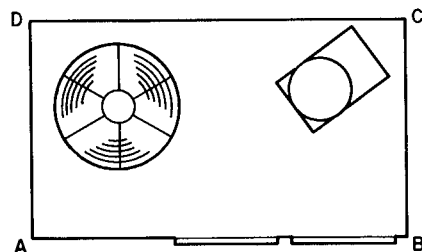
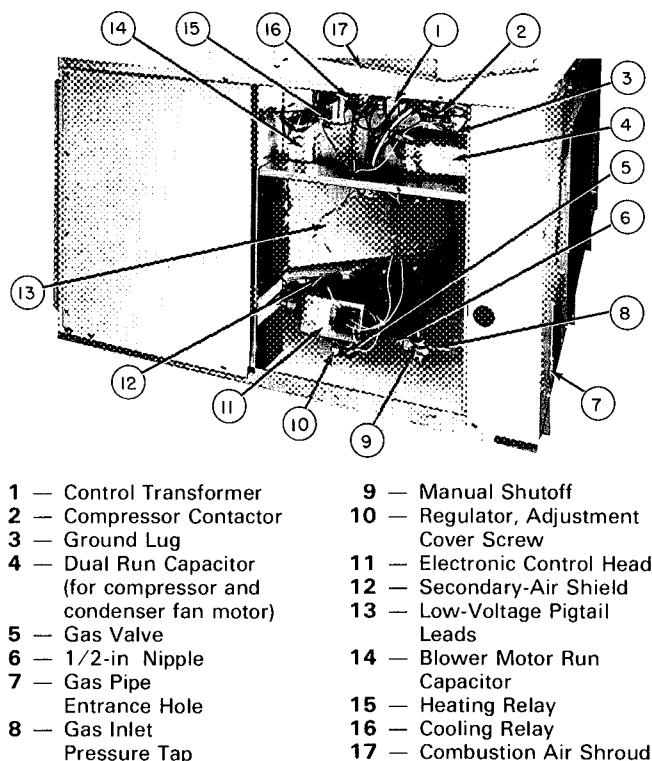

Fig. 4 — Dimensions and Clearances (ft-in.)
Fig. 6 — Model 48KLA036 — Side View (Partial) with Access Doors Removed
4. Refer to Fig. 4 for location of gas meter, electrical meter, condensate drain, duct connections and required clearances before setting unit in place.
CAUTION: When installing unit on a rooftop, be sure roof will support the additional weight. Refer to Fig. 4 to obtain total weight and corner weight information.
CLEARANCES — Required minimum operating and service clearances are shown in Fig. 4 for providing adequate combustion, ventilation and condenser air.
Models 48KHA,KLA dispose of condensate water through a 3/4-in. MPT drain fitting. See Fig. 4 for location.
VENTING — The vent cap, combustion air shroud and flue assembly are shipped in either the blower or control compartment. Vent screen is taped to blower housing. Remove access doors to locate assemblies. See Fig. 4 for door locations.
Step 2 — Make Gas Piping Connections — A manual shutoff valve is shipped loose in the burner compartment or blower compartment. Connect one end of a field-supplied 1/2-in. straight nipple to the gas valve inlet. Connect the other end of the nipple to the manual shutoff valve as shown in Fig. 6. The gas supply pipe enters unit through access hole provided. See Fig. 4 for location. The gas connection to unit is made to the 1/2-in. FPT gas inlet on manual shutoff. See Fig. 6 for inlet location.
Step 3 — Make Duct Connections — Model 48KHA,KLA has duct flanges on the supply-and return-air openings on side of unit. See Fig. 4 for connection sizes and locations.
The field-supplied disconnect switch box may be mounted on unit over the high-voltage inlet hole in control corner panel. See Fig. 4.
2. Run high-voltage leads into unit control box and connect to contactor. See unit wiring label and Fig. 6 and 8.
For operation on 208 volts, disconnect orange transformer-primary lead from contactor. See unit wiring label and Fig. 6. Remove tape and cover from terminal on end of red transformer-primary lead. Save cover. Connect red lead to contactor terminal from which orange lead was disconnected.